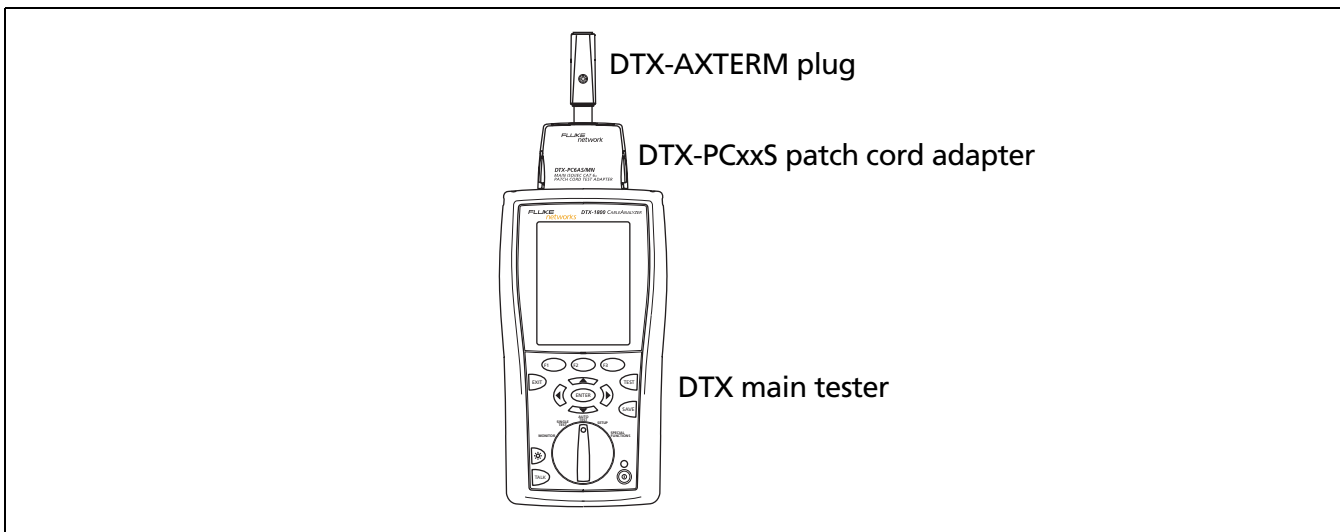

Figure 4. Using a DTX-AXTERM Plug to Characterize and Test the Adapters
- 1 Attach the DTX-PCxxS/MN main adapter to the main DTX tester and insert the DTX-AXTERM plug, as shown in Figure 4.
- 1 Attach the DTX-PCxxS/SR remote adapter to the main DTX tester and insert the DTX-AXTERM plug, as shown in Figure 4.